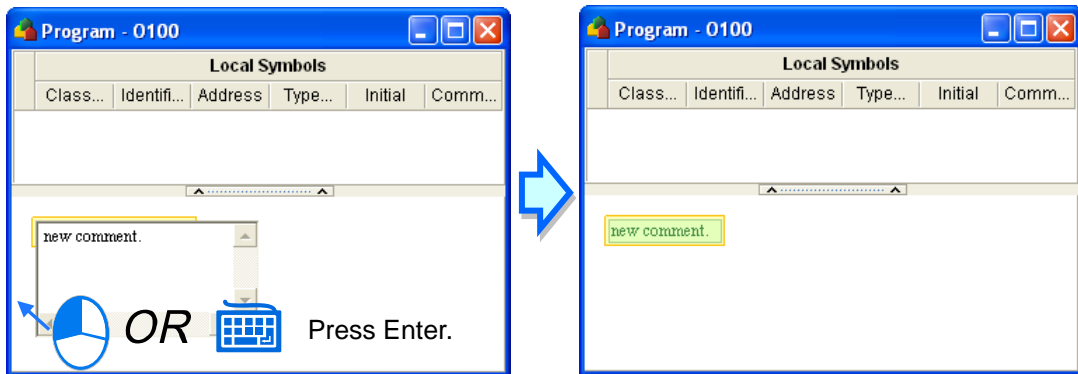

Figure 12-43 Comment which is inserted
- (4) After the users type a comment, they have to click the blank in the program editing window, or press Enter on the keyboard, as shown in figure 12-43. This type of comment is independent of the other types of objects in the program editing area. It does not vary with the deletion or the movement of another type of object.